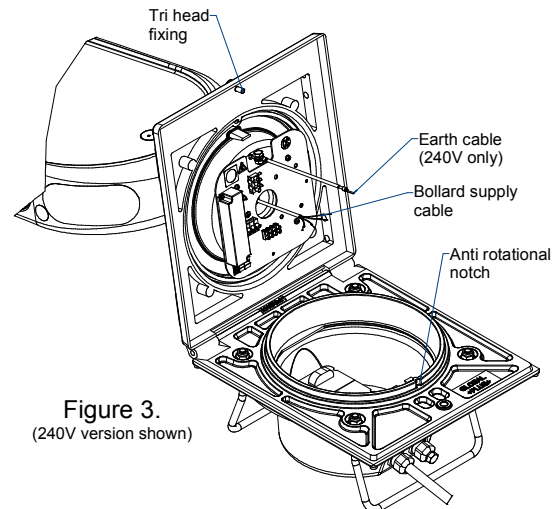

Figure 3.
- 9) Reopen the Global hinge frame and lay the Weebol Plus onto the ground exposing the underside of the Weebol Transition Casting Assembly - be aware that the Weebol Transition Casting Assembly is independant to the hinge frame. Connect the bollard supply cable to the terminal block located on the underside of the Weebol Transition Casting Assembly - Figures 3 and 4.